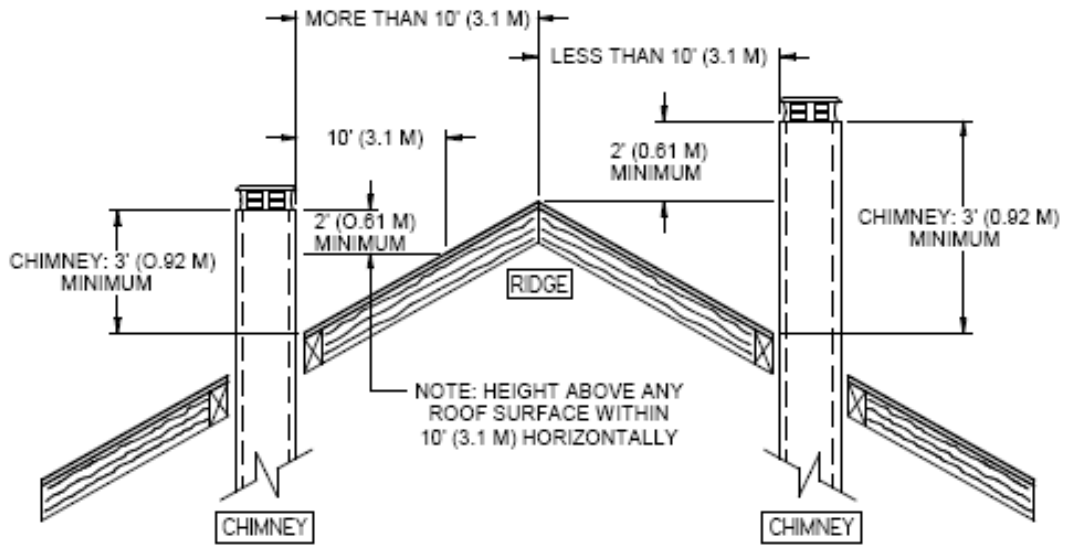

Figure 7a
6. The chimney must extend at least 3 ft. (92 cm) above its point of contact with the roof and at least 2 ft. (61 cm) higher than any wall, roof or building within 10 ft. (3.1 m) of it. See Figure 7a and 7b to determine the configuration that applies to your roof (flat or sloped roof and the distance between the chimney and the highest point of the roof and/or the nearest chimney).